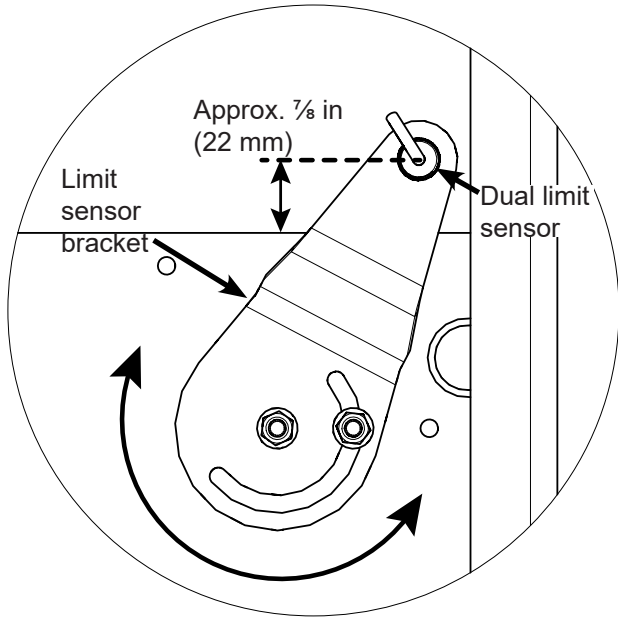

Figure 7. Set Dual Limit Sensor Height
2. Set the height of the dual limit sensor  $\frac{7}{8}$  in (22 mm) above the bottom of the rail opening (Figure 7).